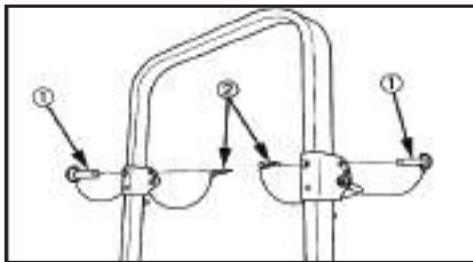

Figure 1. (1) Set bolt (2) Linch Pin
1. Remove both set bolts, maintain a hold on the ROPS (Figure 1).